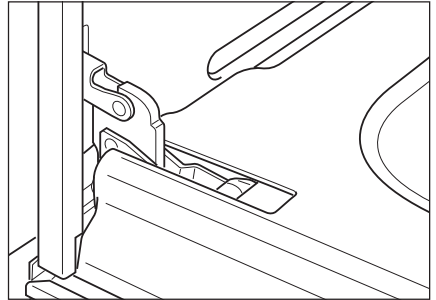

Fig.33a
- Open the door to the full extent (Fig. 33a).